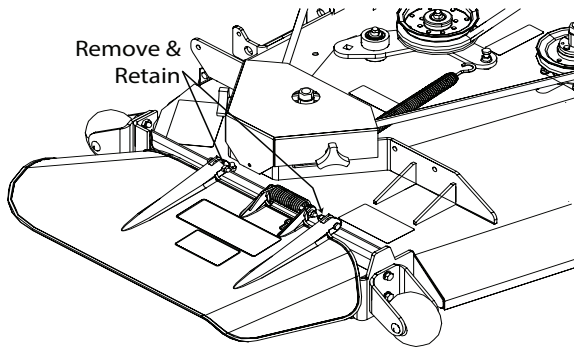

Figure 3-48. Removing the Discharge Chute
3. Remove the discharge chute from the machine. See Figure 3-48.